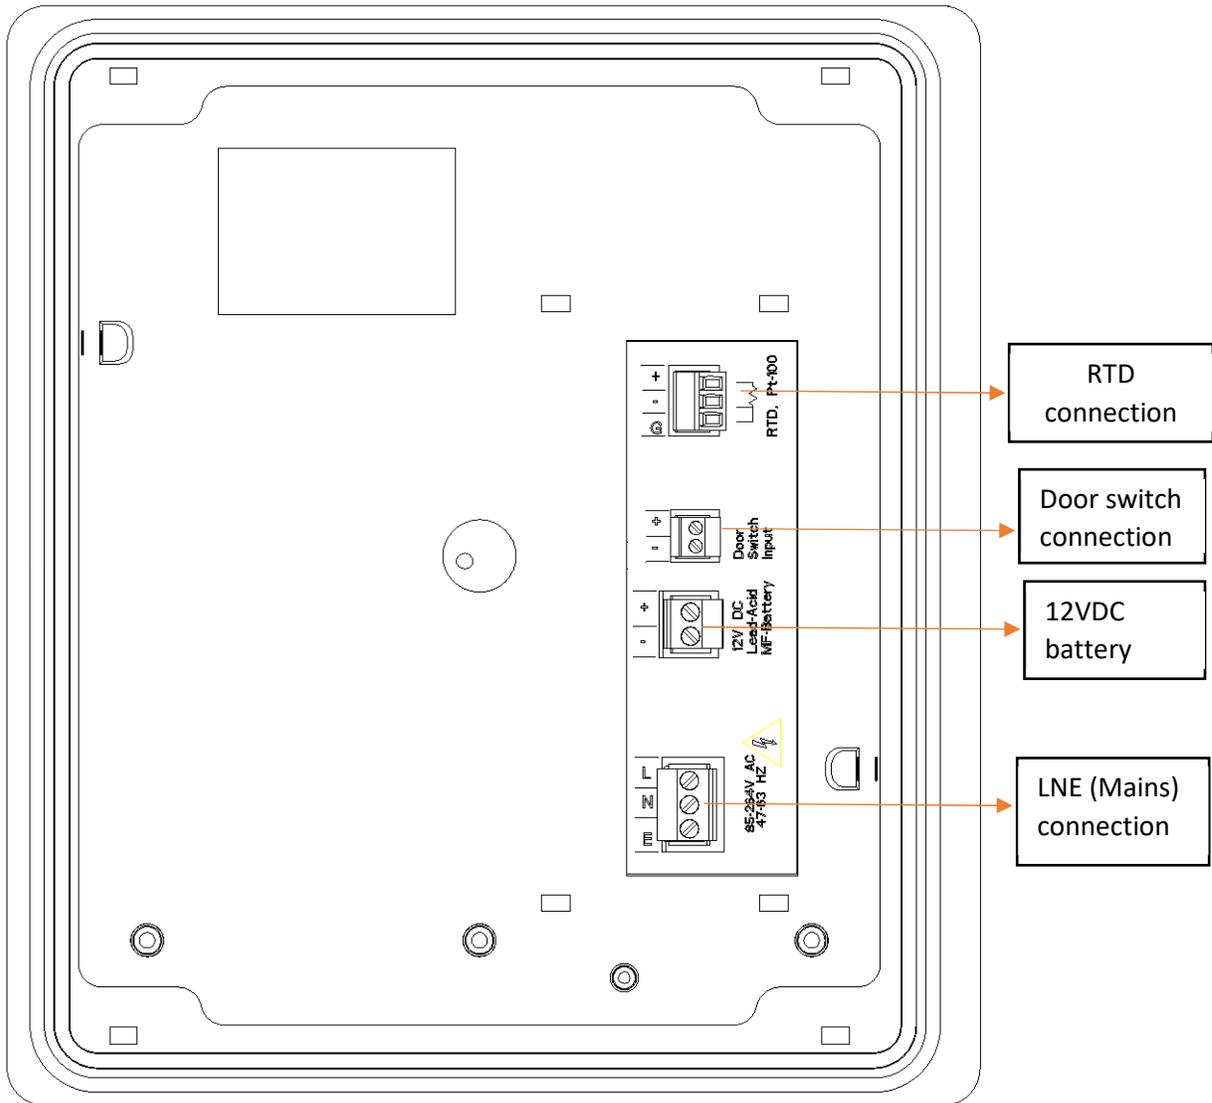

Figure 6 Back panel view with notation
- Refer the figure 6, to connect AC mains, 12V DC Input, door switch input and sensor to the recorder.
- The connections for Main’s supply, Door switch input, 12VDC battery connection and sensor input are shown in Figure 6. As per the figure the live, neutral & earth from the mains cord are connected to L, N & E respectively.